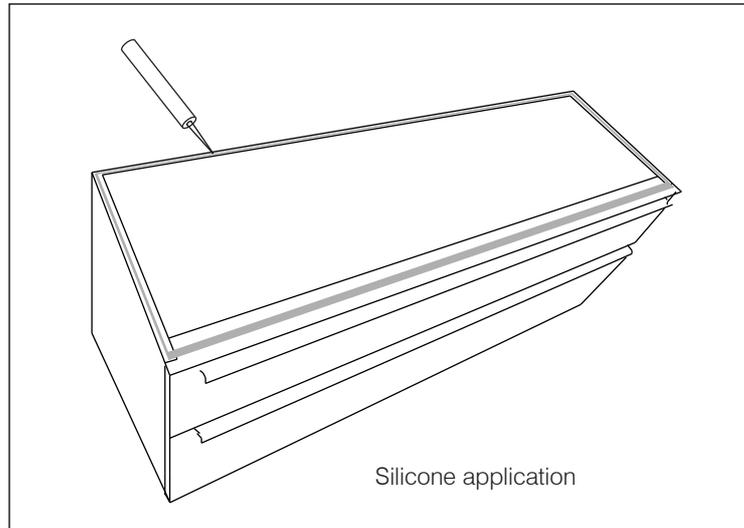

Figure 13
- Apply a layer of silicone to the basin / worktop on all 4 sides to fix to side panels, back rail and front section as per figure 13.